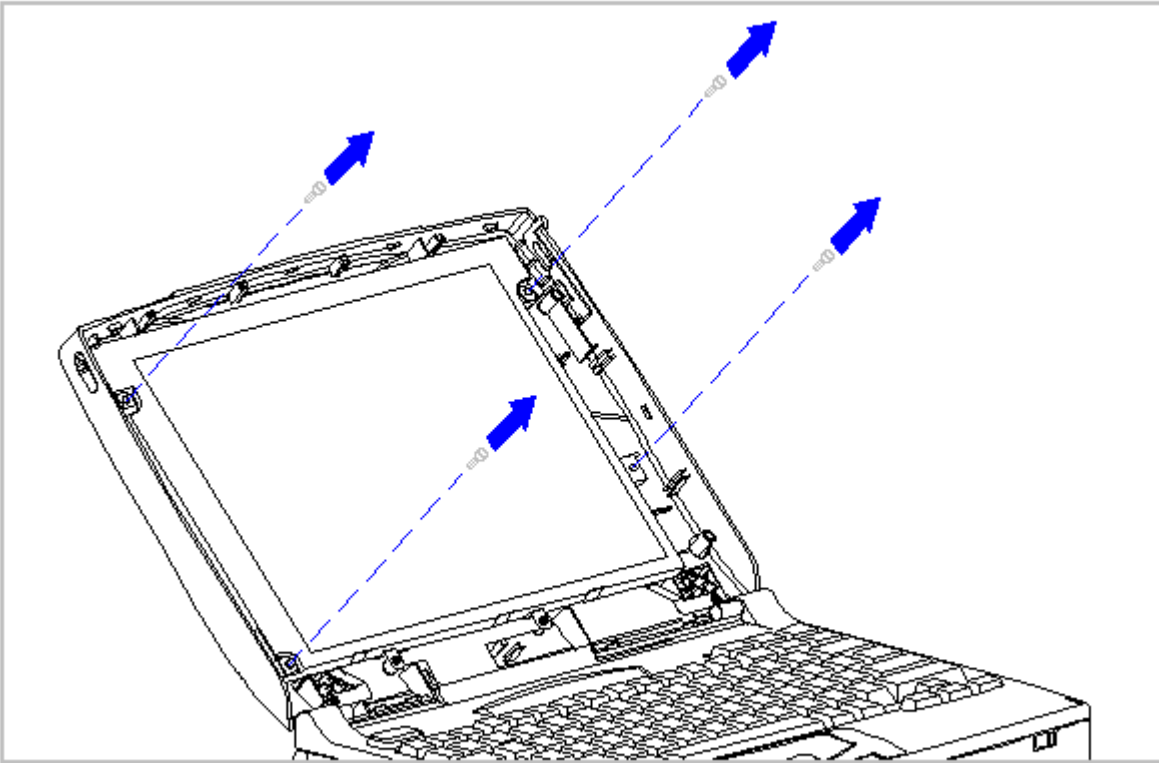

Figure 3-159. Removing the Screws from the CTFT (10.4 inch) Panel (Models 420 and 430)
7. Remove the four screws that secure the CTFT (10.4 inch) panel to the display enclosure (Figure 3-159).